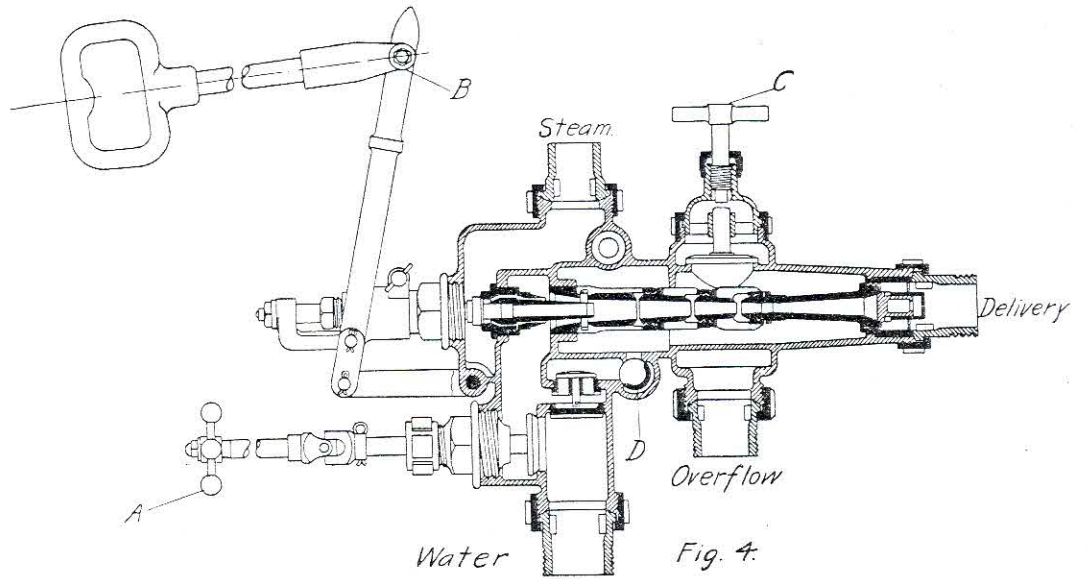

Fig. 4.
44. Method of operating locomotive lifting injectors Simplex Type, shown in Figure 4: